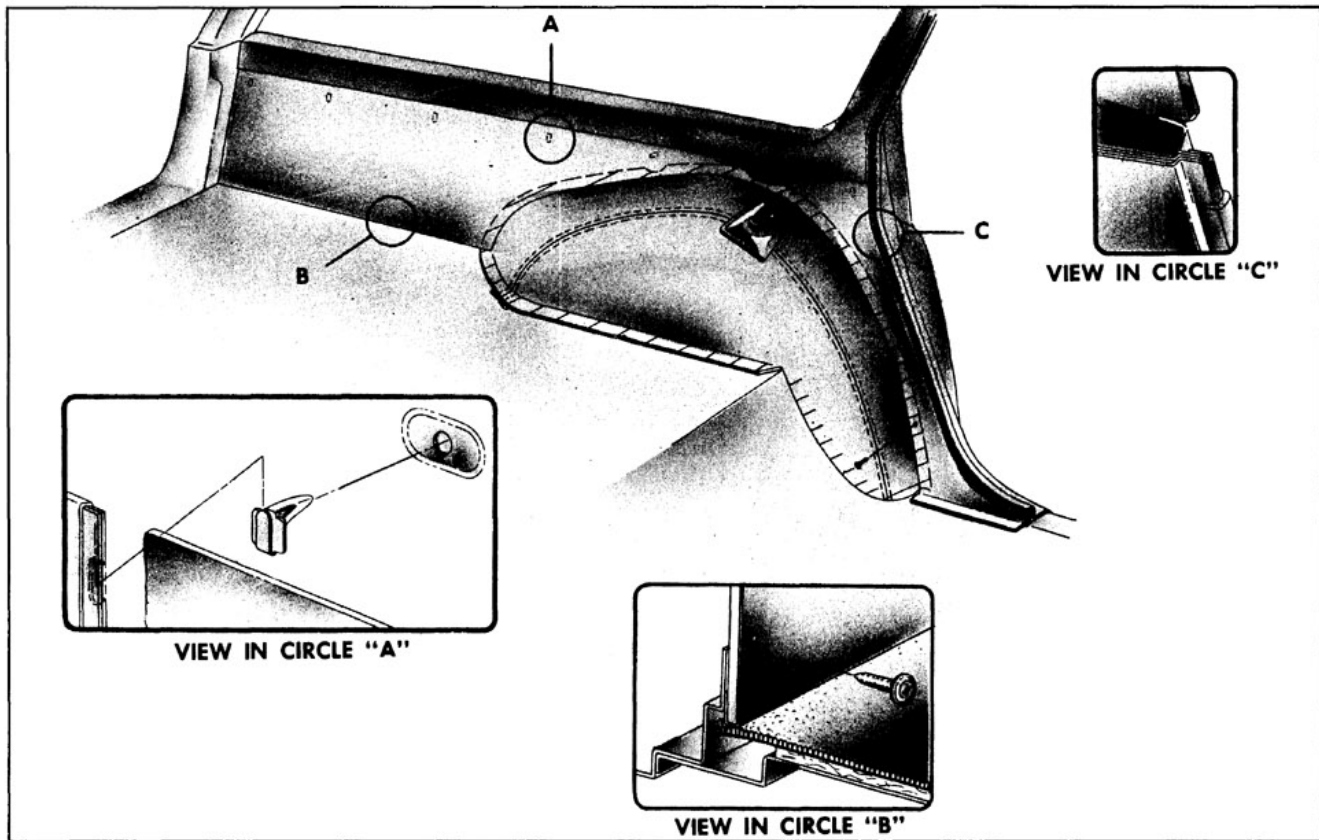

Fig. 16-371 Rear Quarter Trim
2. Using a flat-bladed tool, pry snap-in type clips on trim panel from piercings in inner panel along upper edge of trim panel. ("A", Fig. 16-371) Begin removal at front and work rearward.